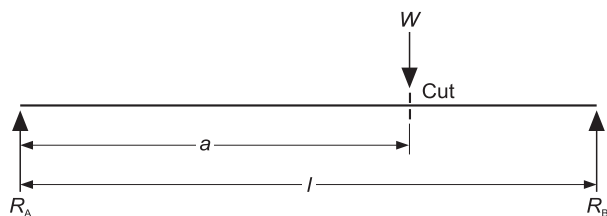

Figure 3 Force diagram
2. There are four securing nuts in the top member of the frame. Slide them to approximately the positions shown in Figure 3.
This experiment examines how bending moment varies at the point of loading. Figure 3 shows the force diagram for the beam.